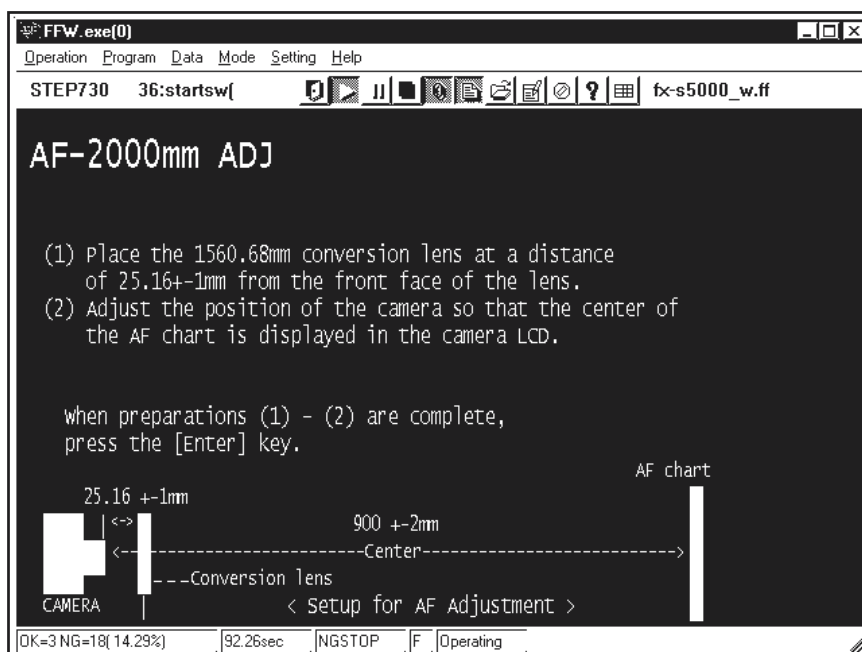

Fig.20
--->The [AF 2000mm Adjustment screen(Fig20)] appears.